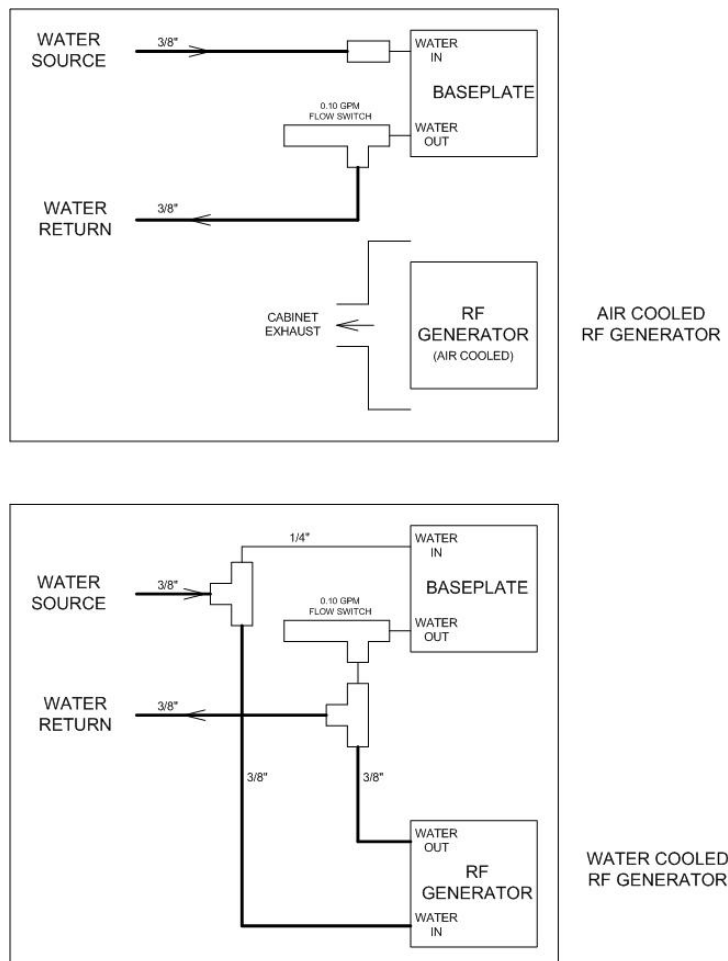

Figure 3-7: Water Cooling Connections
- Attach the coolant lines as indicated in figure 3-7.